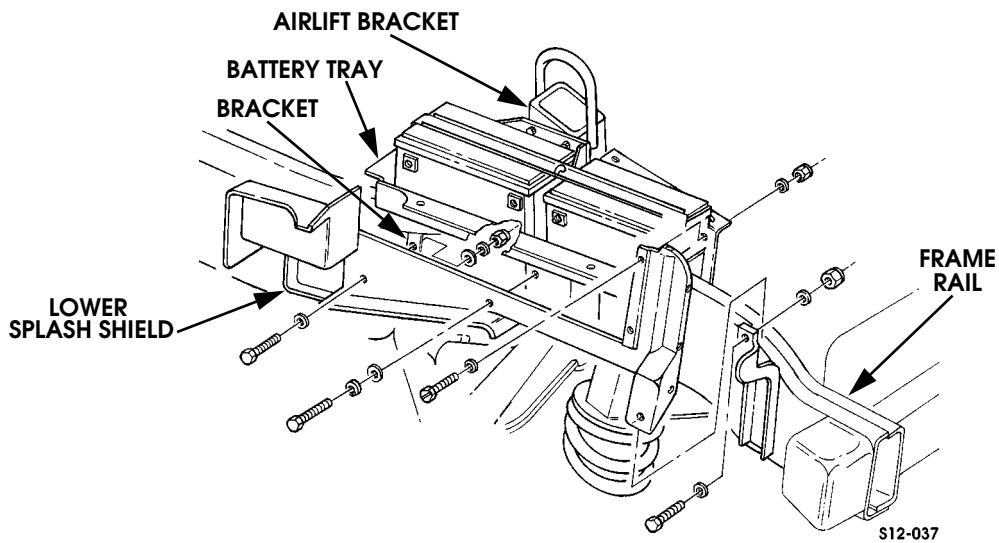

Figure 12-15: Lower Splash Shield Removal/Installation
1. Position lower shield on bracket and install fasteners (Figure 12-15).